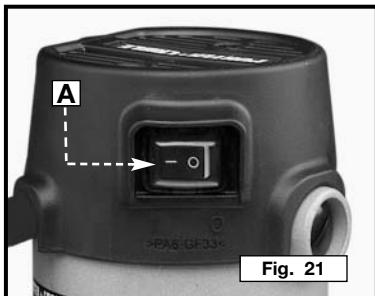

Fig. 21
To start the tool, move the rocker switch (A) Fig. 21 to the “ON” or “1” position. To stop the tool, move the rocker switch to the “OFF” or “0” position.